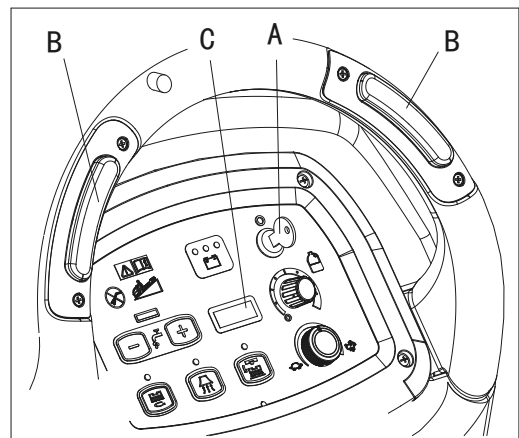

Figure 25
1. Turn the ignition key (A, Figure. 25) to "I".
2. Press the switch (B), the hour meter (C) begins to work and it at the same time shows the total number of working hours (scrubbing/drying) performed by the machine.
3. Release the switch (B).
4. Turn the ignition key (A) to "0".